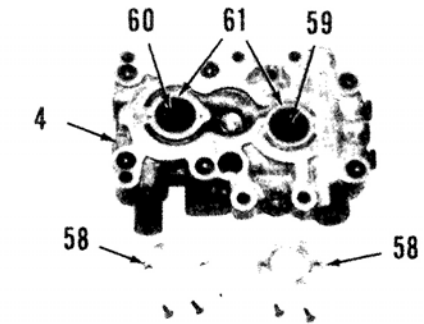

Fig. 68—View showing port block (4) with flange covers (58) removed. Note pump side needle bearing (59), motor side needle bearing (60) and oil seals (61).
Inspect trunnion shaft covers and bushings for excessive wear and any other damage. Inspect pump side needle bearing (59 - Fig. 68) and motor side needle bearing (60) located in port block (4) for cracked or missing rollers, excessive wear and any other damage.
Install pump side oil seal in port block (4 - Fig. 68) so top of seal surface is 3 mm (1/8-inch) below machined surface. Install motor side oil seal in port block (4) so top of seal surface is 0.5 mm (1/64-inch) above machined surface. Apply a thin coat of suitable grease to lip surface of oil seals.